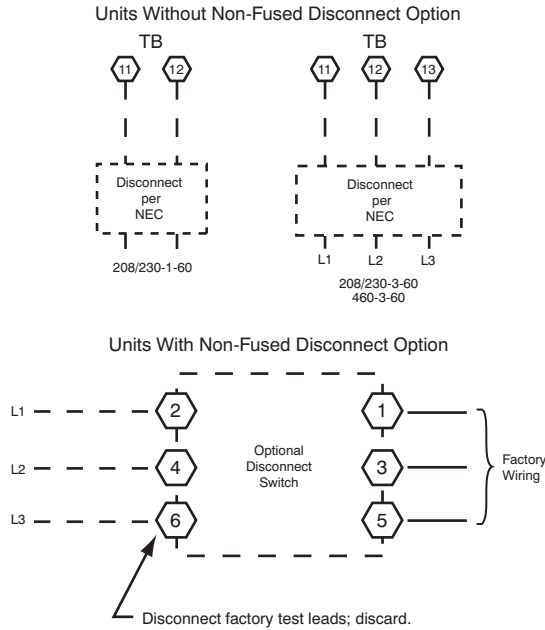

Fig. 17 — Power Wiring Connections
Refer to Fig. 17 for power transformer connections and the discussion on connecting the convenience outlet on page 14.
Field power wires are connected to the unit at line-side pressure lugs on compressor contactor C and indoor fan contactor IFC (see wiring diagram label for control box component arrangement) or at factory-installed option non-fused disconnect switch. Max wire size is #2 AWG (copper only). (See Fig. 17.)
The factory-installed option non-fused disconnect (NFD) switch is located in a weatherproof enclosure located under the main control box. The manual switch handle and shaft are shipped in the disconnect enclosure. Assemble the shaft and handle to the switch at this point. Discard the factory test leads (see Fig. 17).
All field wiring must comply with NEC and all local codes. Size wire based on MCA (Minimum Circuit Amps) on the unit informative plate. See Fig. 17 and the unit label diagram for power wiring connections to the unit power terminal blocks and equipment ground. Maximum wire size is #2 ga AWG per pole.
2. Install power lines to terminal connections as shown in Fig. 17.